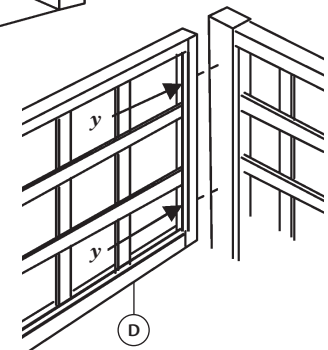

Fig.3
The Back Trellis (D) should now be fitted. Use two screws [y] either side to fix the Side Section posts as Fig.3.